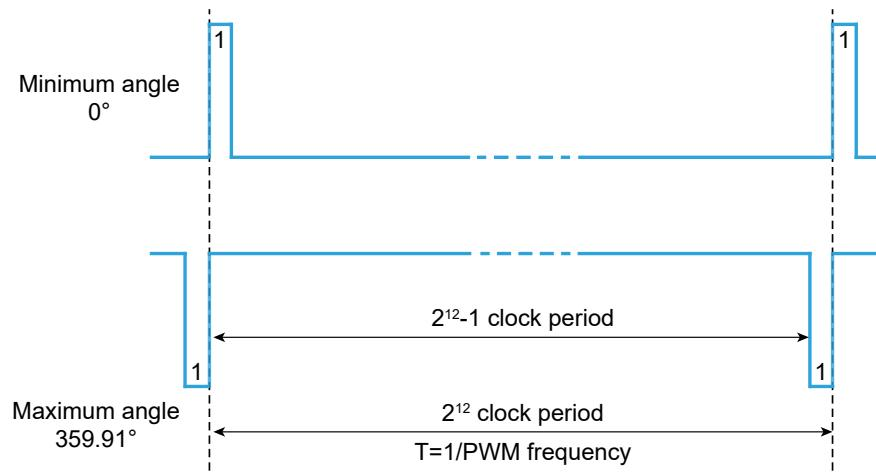

Figure 7. Waveform of PWM mode output signal
TMR3102P supports pulse width modulation (PWM) output. The duty cycle of PWM is a logic signal which proportional to the magnetic field angle. The duty cycle is limited by the minimum value (1/4096 of the period) and the maximum value (4095/4096 of the period), so the duty cycle varies from 1/4096 to 4095/4096 with the resolution of 12-bits. Figure 7 shows one period of the PWM signal, and the period (T) is $1/F_{\text{PWM}}$.